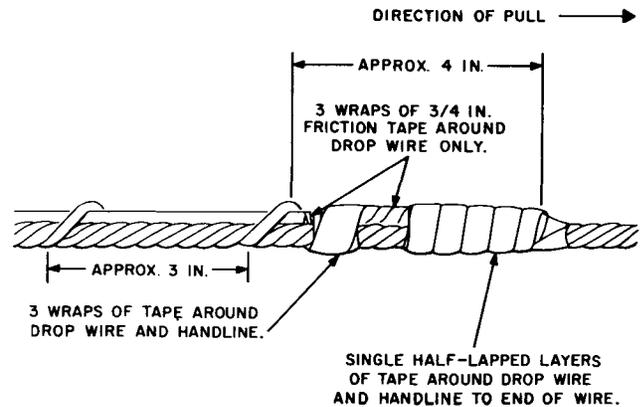

Fig. 7 — Alternate Tie to Prevent Snagging
**Note:** If the handline has been placed over a drive hook or other support on which a square knot would snag, fasten the wire to the handline as shown in Fig. 7.